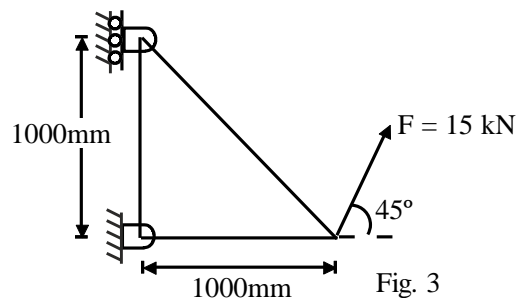

Fig. 3
9. For the Truss shown in figure 3, Determine the nodal displacement, stresses in each element and reaction at supports. 14